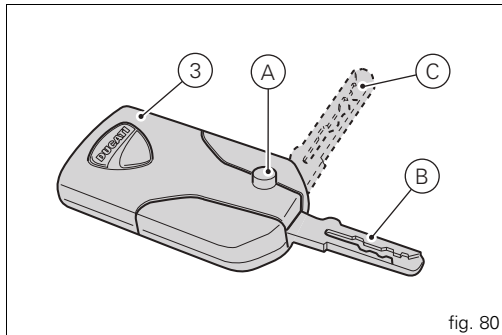

fig. 80
The key (3) metal part is hidden inside the key: press button (A, fig. 80) to fully open the metal part, i.e. position (B, fig. 80). Hold depressed button (A, fig. 80) you to move the metal part and set it to the middle position (C, fig. 63); once in place, release button to lock.
With the vehicle in Key-On and “engine off”, if the presence of the active key (3, fig. 80) is not detected for thirty consecutive seconds, the motorcycle will turn off automatically without any action by the rider.